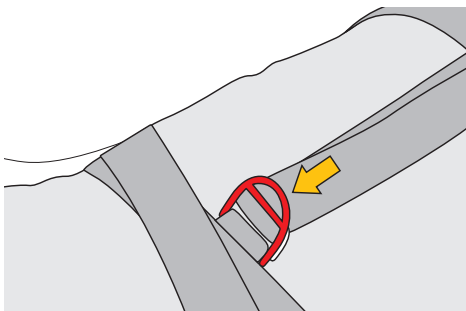

Fig.16
a) Loosen the straps by using the buckles as shown in figure 16.